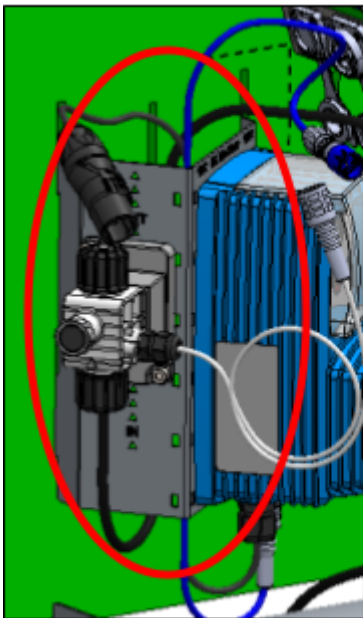

Figure 27.
- Carefully slide the pump board into the slots provided on the wall panel and then lower it straight down until it is securely in place. See Figures 27 and 28.
Refer to Figure 27 for the correct cable positioning.